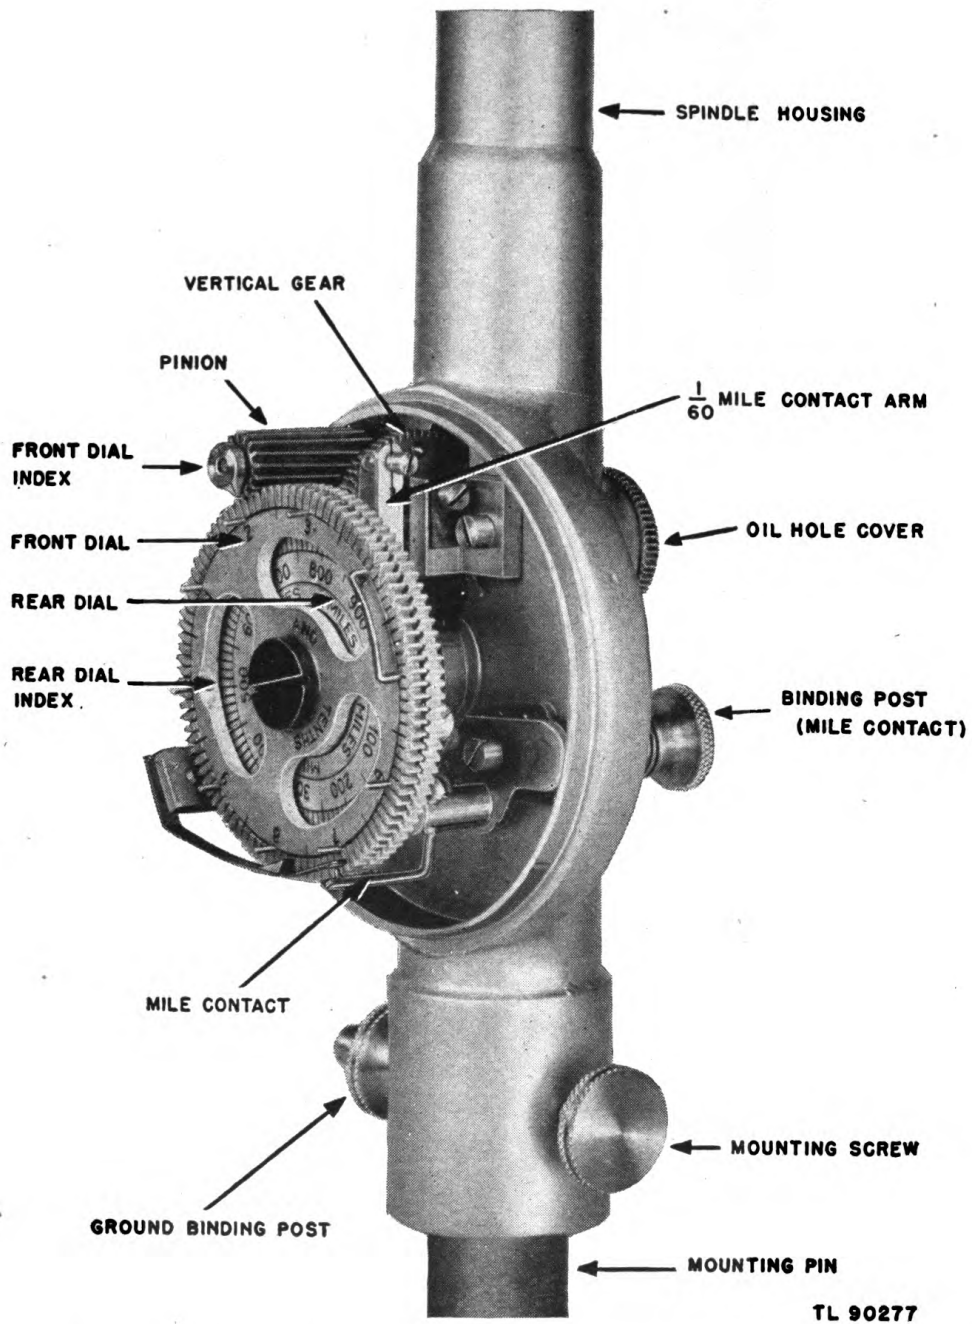
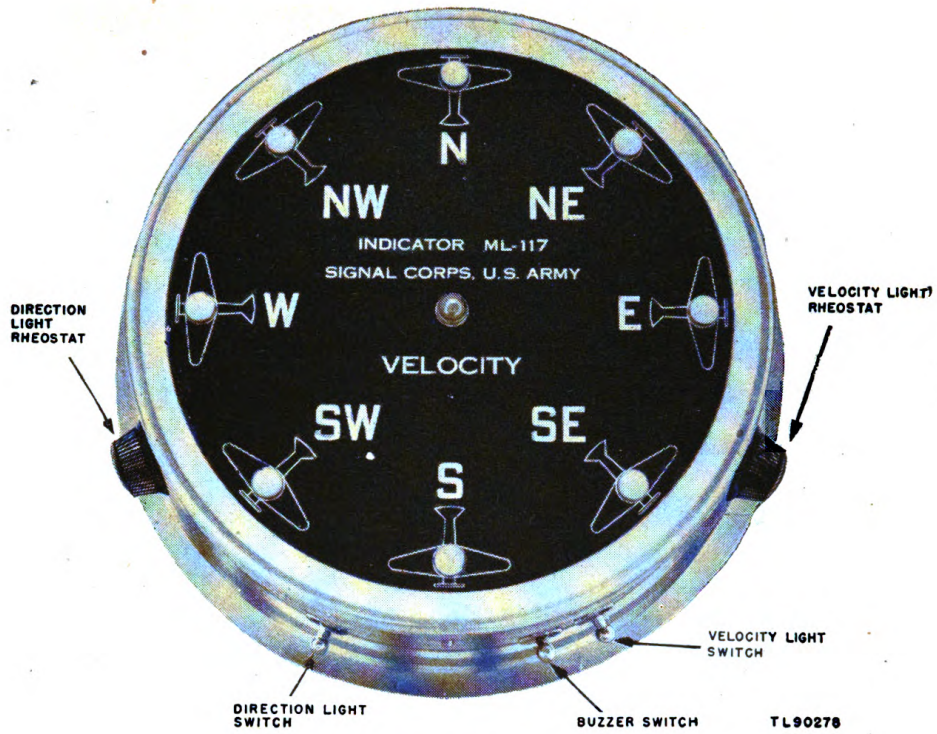

Figure 4. Anemometer ML-80 or ML-80-B, case removed, showing dials and gear mechanisms.
Figure 5. Indicator ML-117 or ML-117-B.
d. Spindle. (1) The upper end of the spindle is extended through a plain, bronze, sleeve bearing at the top of the housing; the lower end is supported in a combination sleeve and thrust bearing.
(2) The upper portion of the spindle is hollow down to the upper bearing, where a pinhole extends from the center to the side of the spindle.
(3) The upper end of the spindle is threaded to receive an oiler. The oiler contains a supply of oil and a wick that extends down into the hollow portion of the spindle.
(4) A worm gear is cut integral with the spindle just above the lower bearing.
e. Dials and contacts. (1) The dials and the electrical-contacting mechanisms are operated by a vertical gear that engages the worm gear of the spindle. (See fig. 4.)
(2) The vertical gear rotates on a horizontal axis, with a worm gear fastened to the same shaft. The worm drives a long pinion gear which engages the gear teeth cut around the two dial plates that rotate on the same center. The dials are placed one behind the other, and are separated by a thin washer. The long pinion gear is held on its shaft by a small nut which is pointed on one side to serve as an index for the front dial.
(3) The front dial has openings through which the markings of the other dial are visible. The dials are read through the glass window of the gearcase. The front dial is graduated for miles and tenths-of-a-mile; the dial behind it is graduated in tens of miles and hundreds of miles.
(4) On the front dial are ten short pins equally spaced around and projecting from the face of the dial. A spring contact arm, grounded to the anemometer housing, is actuated by the pins to make contact with an insulated, fixed contact arm connected to the mile binding post at the back of the housing.
(5) One side of the vertical gear that engages the spindle worm is provided with six small projecting cam surfaces, equally spaced around the circle. A spring contact arm, grounded to the anemometer housing, is actuated by the cams to make contact with an insulated fixed contact arm connected to the $1/60$ -mile binding post at the back of the housing.
6. INDICATORS ML-117 AND ML-117-B (fig. 5). **a. Components.** Indicator ML-117 or ML-117-B consists of a heavy, metal, pan-shaped base in which is mounted nine electric lights, a buzzer, and a transformer. Three toggle switches and two rheostats are mounted on the side of the base. The top is fitted with a removable bezel and dial face.